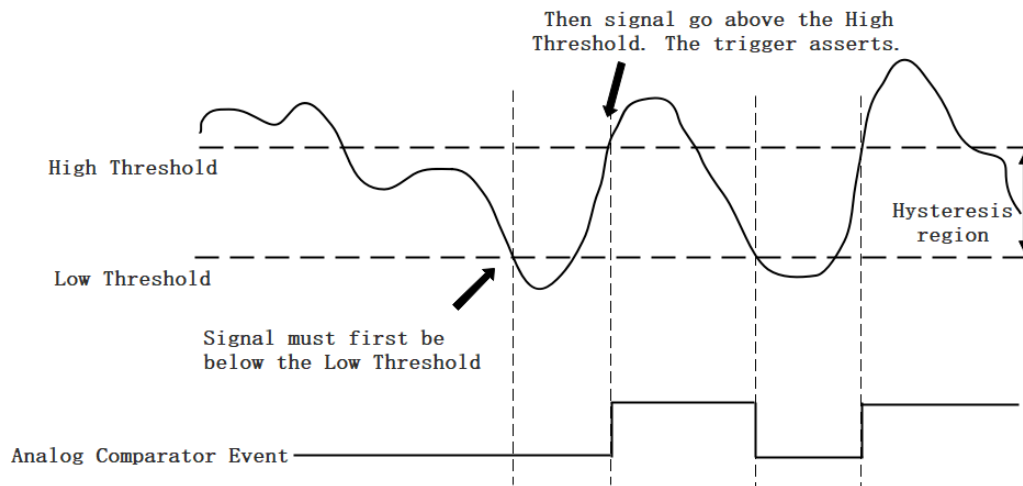

Figure 7 Hysteresis with Rising Slope Trigger
**Hysteresis with Rising Slope Trigger:** The Hysteresis comparator output is high when the signal must first be below the low threshold, then goes above the high threshold. The output will change to low when the signal goes below the low threshold as shown in Figure 7.